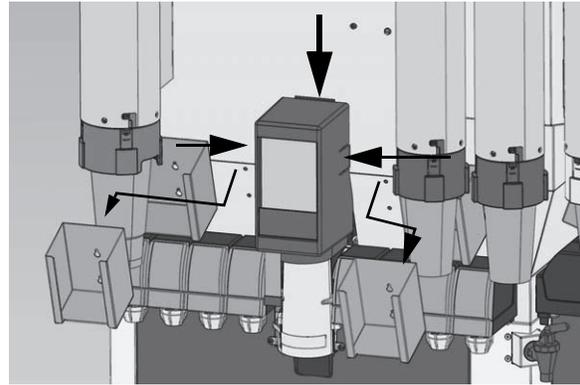

Figure 46.
1. Remove the lid dispensers on either side of the key pad bezel. There are three snaps which holds the key pad bezel to unit. One above and two on the sides as shown in Figure 46.
1. Remove the lid dispensers on either side of the key pad bezel. There are three snaps which holds the key pad bezel to unit. One above and two on the sides as shown in Figure 46..